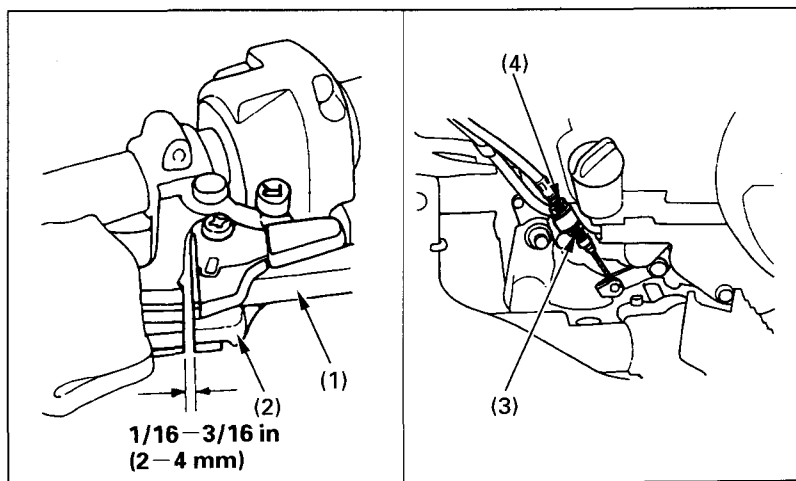

Fig. 4-20 (1) Rear brake lever
Measure the reverse assist lever (2) free play. Free play, measured at the lever (2) end near the cable (Fig. 4-20), should be approximately: